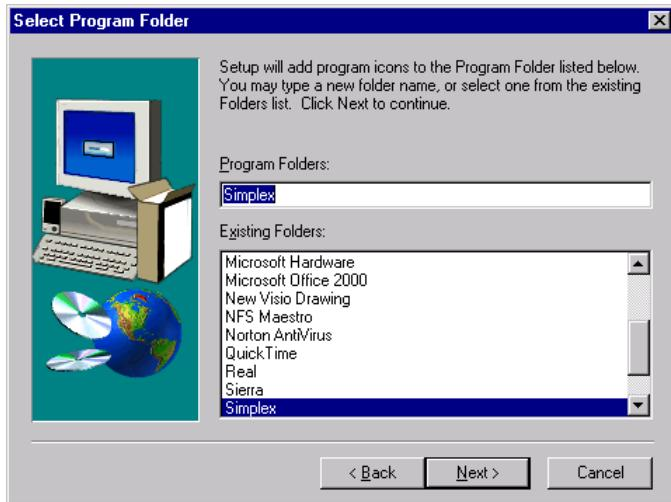

Figure 2-4.
4. The next screen, shown in Figure 2-4, prompts you for the name of the folder in which the programmer's startup icon should be stored. It is recommended that you choose the default folder Simplex. When the correct entry is specified, click Next to continue.